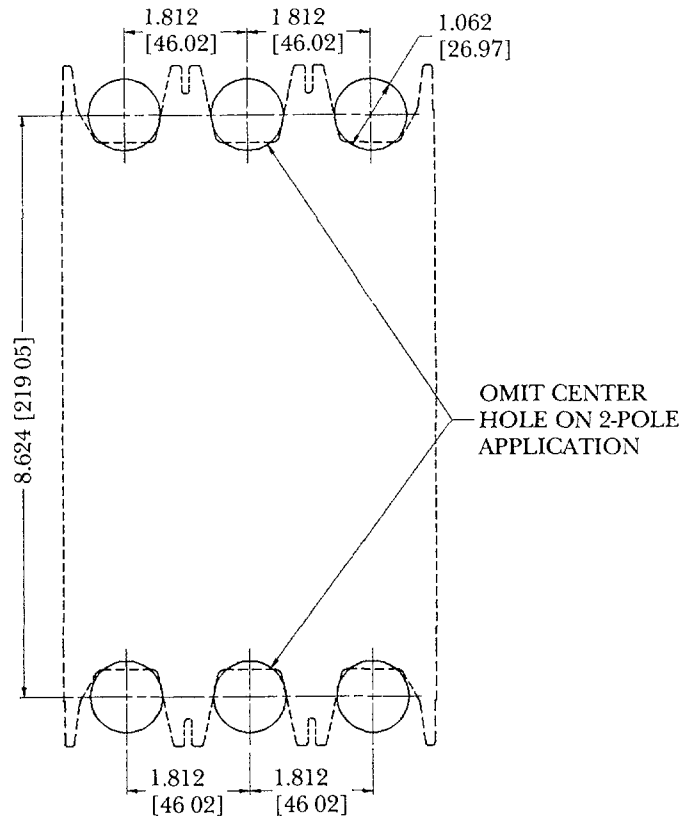

Figure 1 Mounting surface drill pattern
1. Drill a 1 1/16 in. (27 mm) diameter hole for each stud in the mounting surface. The hole pattern is shown in Figure 1